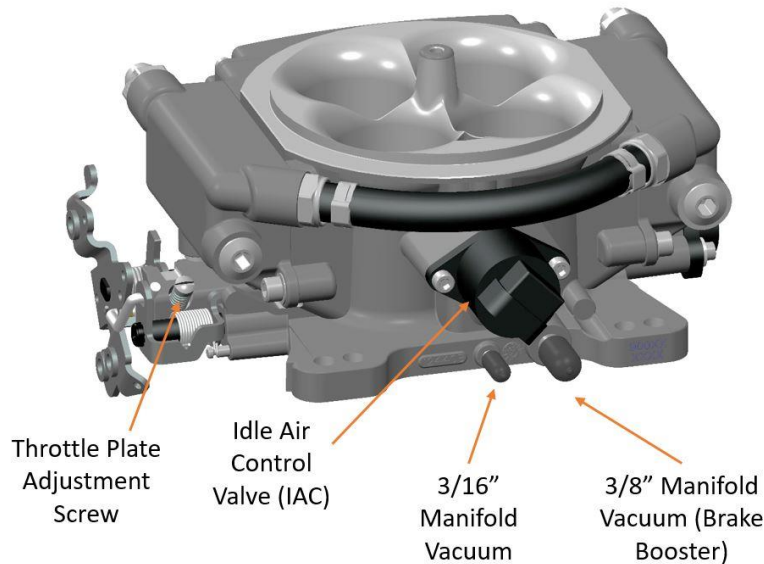

Figure 4
5. Reconnect the appropriate vacuum hoses to the Sniper EFI throttle body. XFlow does not have a ported vacuum port that would typically be used with a vacuum advance distributor. **Be sure to plug any vacuum sources not used on both the Sniper EFI Throttle Body and on the Engine.** See Figure 4 for diagram of vacuum ports.